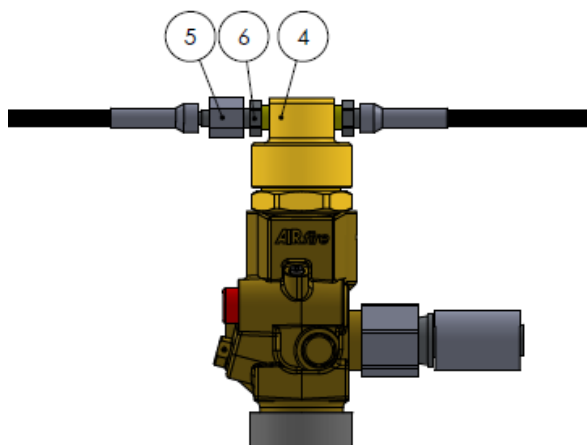

Figure 61 - Nipple for release hose connection to pneumatic actuator
The release hose has two types of threads. One end has male connection (Fig. 57, pos.1), and the other end has swivel female connection (Fig.61, pos. 5). To connect the swivel female thread to the pneumatic actuator, a nipple G1/8" (Fig. 61, pos. 6) has to be used. Screw the nipple (6) to the pneumatic actuator port (4) with a wrench of 14 mm. Then screw the swivel female end of the hose (5) to the G1/8" nipple (6) with a wrench of 14 mm.